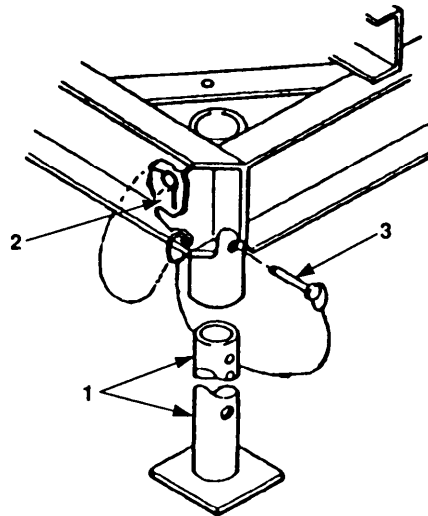

Figure 4-70. Support Leg Maintenance.
- b. Using jack, carefully tilt entire assembly until enough clearance is attained to remove support leg (figure 4-70, 1).
- d. Remove retaining pin (2).
- e. While holding support leg (1), remove anchor pin (3).
- f. Remove support leg (1).
- a. Position support legs (1), align anchor pin holes, insert anchor pins (3).
- b. Install retaining pins (2).
- e. Lower assembly until support legs (1) are fully down. Remove jack.